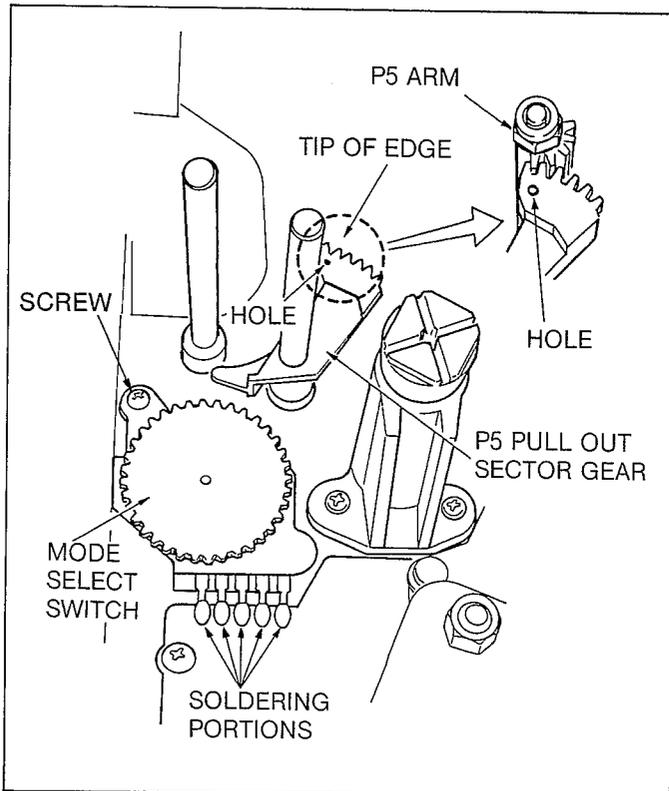

Fig. A11
2. Install the P5 Pull Out Sector Gear so that the hole of P5 Pull Out Sector Gear is exactly in line with the tip of edge at P5 gear as shown in Fig. A11.